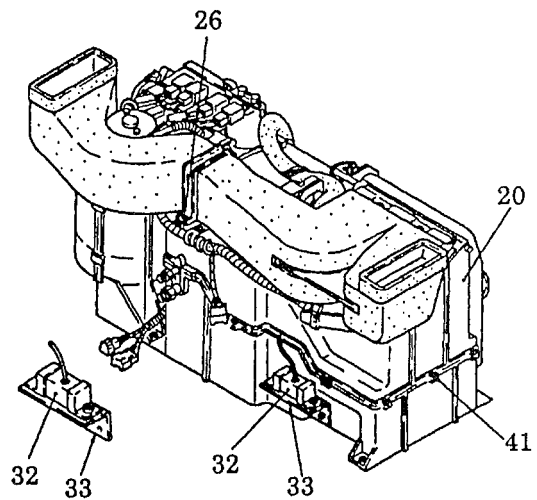

Fig. 12 Air-conditioner unit
4.2 Disassembly and Reassembly of Unit Casing (See Fig. 12 and 13.)